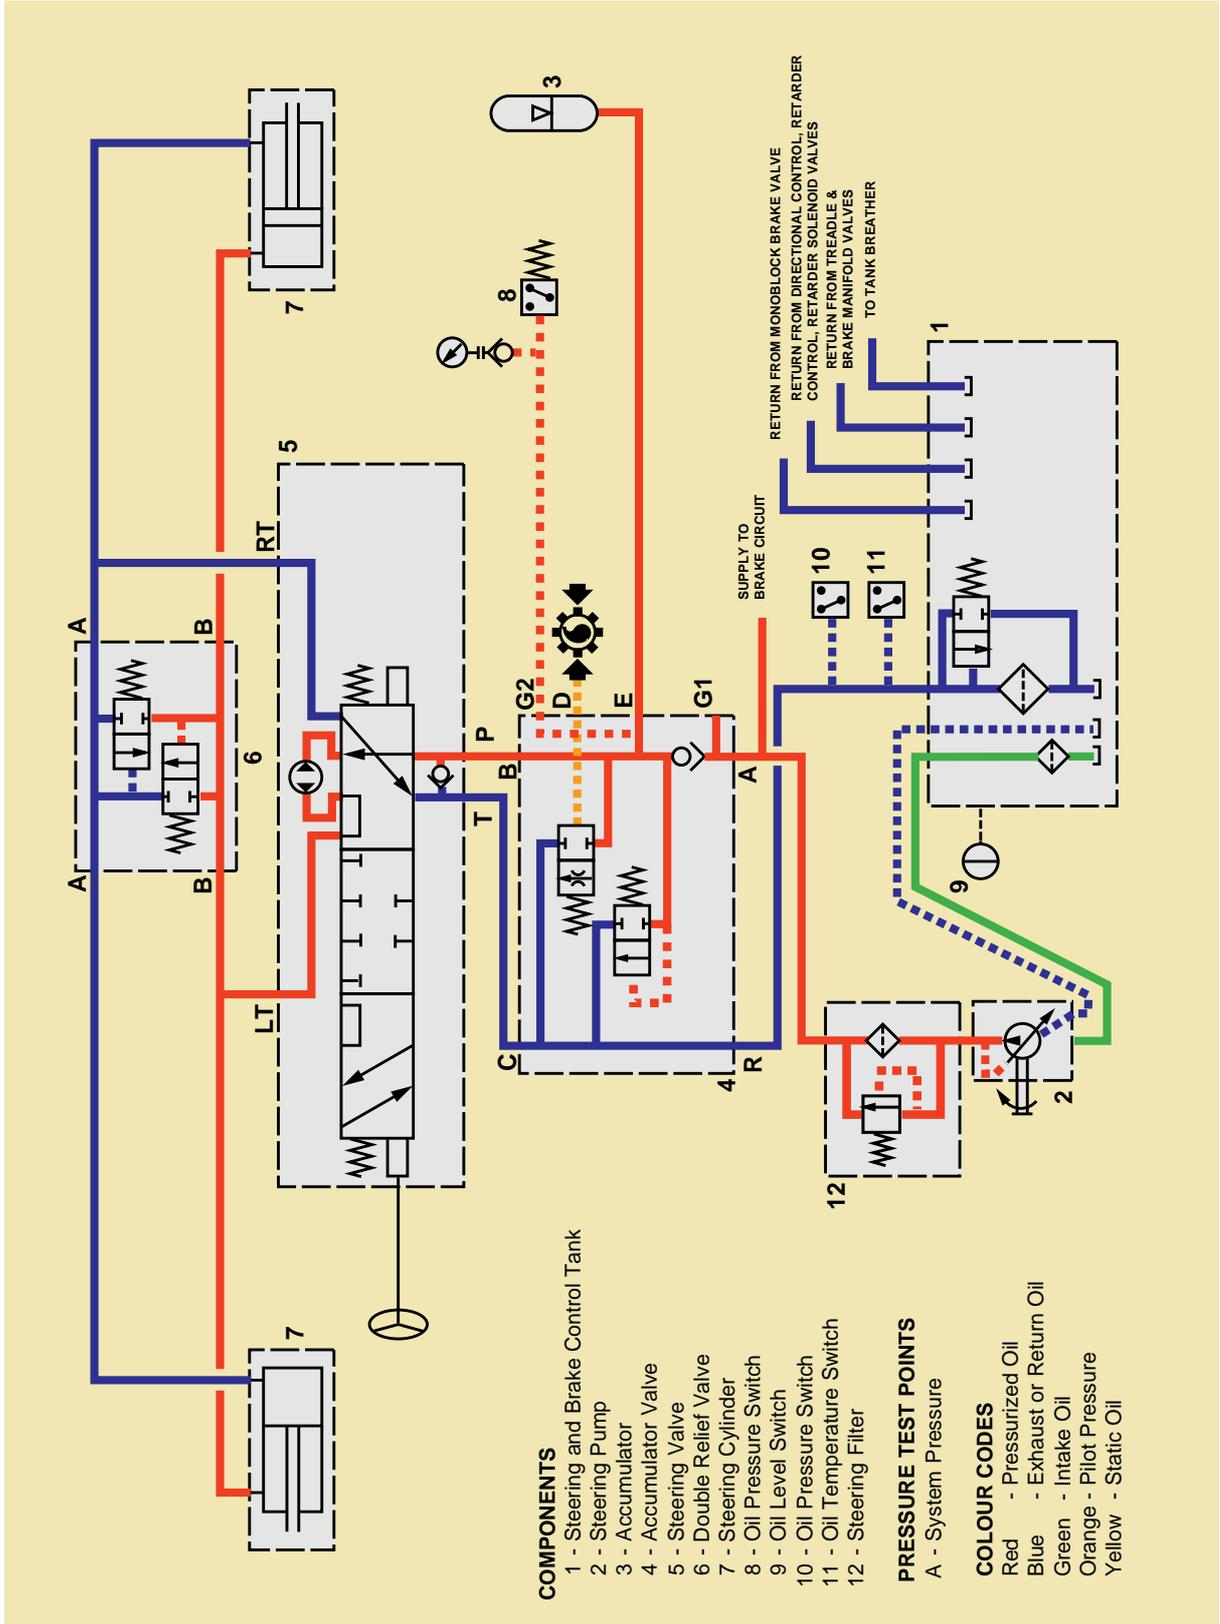

Fig. 4 - Steering System Schematic - Engine Running, Steering Valve Left Turn
An inter-connecting hose assembly (3, Fig. 4) links the steering and brake control tank and the body and disc brake cooling tank. Refer to Section 230-0040, BODY AND DISC BRAKE COOLING TANK.
3. With suitable containers in position, remove drain plugs from tank (1) and body and disc brake cooling tank (2, Fig. 4) and drain the oil. Refer to Section 230-0040, BODY AND DISC BRAKE COOLING TANK. Reinstall drain plugs in tanks and tighten securely.
4. Remove bolts (7), lockwashers (8), access cover (5) and gasket (6) from tank (1). Discard gasket (6).
5. Remove wing nuts (14) from rods (13). Remove and discard filter assembly (10) and gasket (15) from tank (1).
6. Install new gasket (15) and filter assembly (10) in tank (1) and secure with wing nuts (14).
7. Install new gasket (6) and access cover (5) on tank (1) and secure with bolts (7) and lockwashers (8).
8. Fill tank (1) to correct level with hydraulic oil specified in Section 300-0020, LUBRICATION SYSTEM. Install filler cap (2).